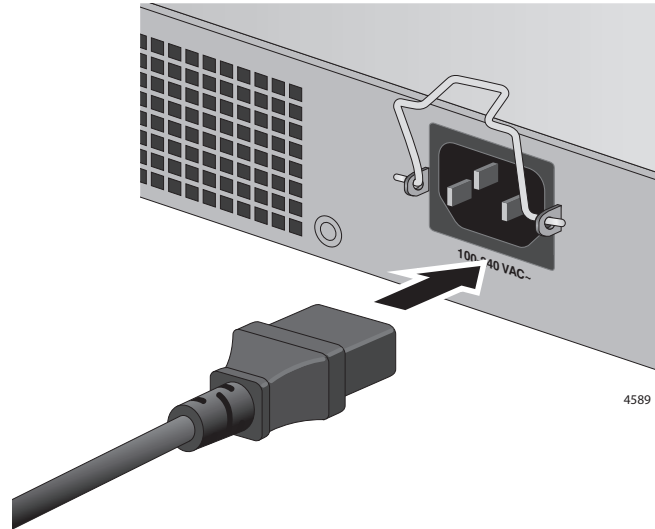

Figure 65. Connecting the AC Power Cords
2. Connect the AC power cord to the AC power connector on the rear panel. Refer to Figure 65 on page 111.